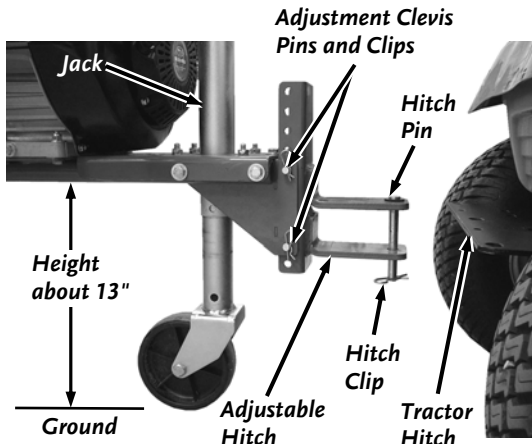

Figure 18
1. Position the back Hitch Plate of your Mower next to the adjustable Hitch of the Leaf and Lawn Vacuum on level ground and remove the Hitch Clip and Hitch Pin (**Figure 18**).